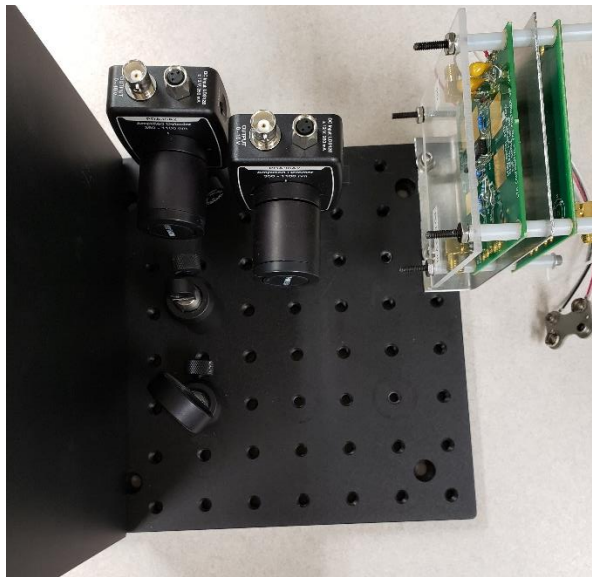

Figure 2: Amplifier On
- a. The result is shown in the Figure 2 below